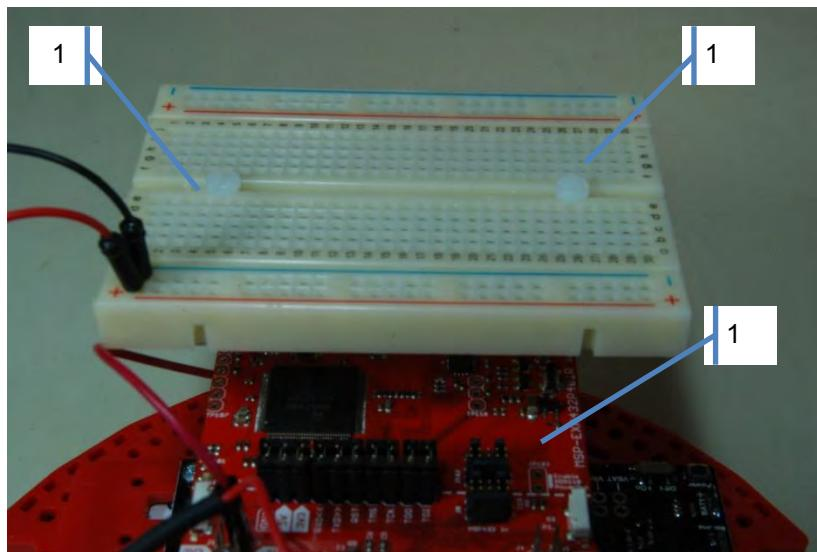

Figure 5. Solderless breadboard attached to the robot.
- 12) Drill two 1/4 inch holes in the solderless breadboard to align with the two 0.75 inch standoffs. Attach the breadboard to the standoffs using two 1/2 inch Nylon screws. See Figure 5.